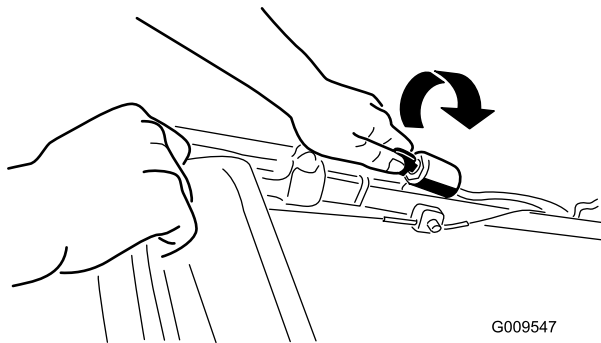
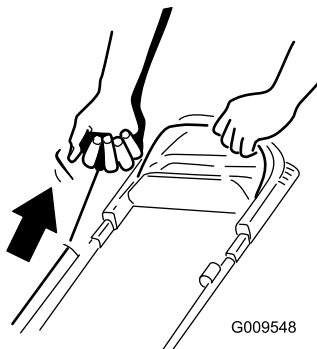

Figure 14
Figure 15
2. Turn the ignition key (Figure 14) (electric-start model only) or pull the recoil-start handle (Figure 15).
**Note:** When you pull the recoil-start handle, pull it lightly until you feel resistance, then pull it sharply (Figure 15). Allow the rope to return to the handle slowly.